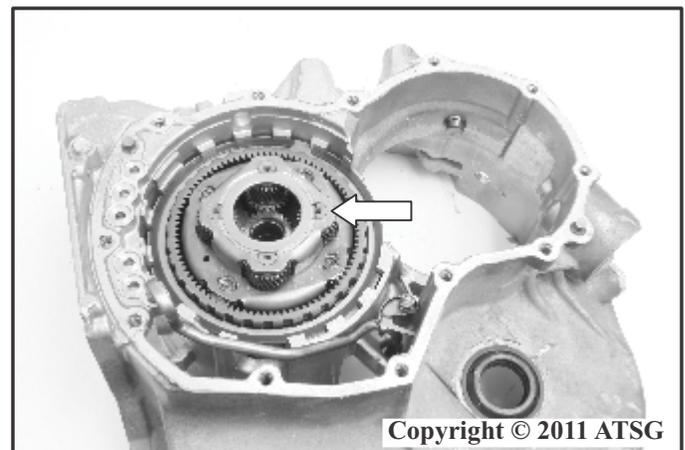

Figure 214
16. Install the front planet carrier and sun gear assembly into the transaxle with a twisting motion as shown in Figure 214.